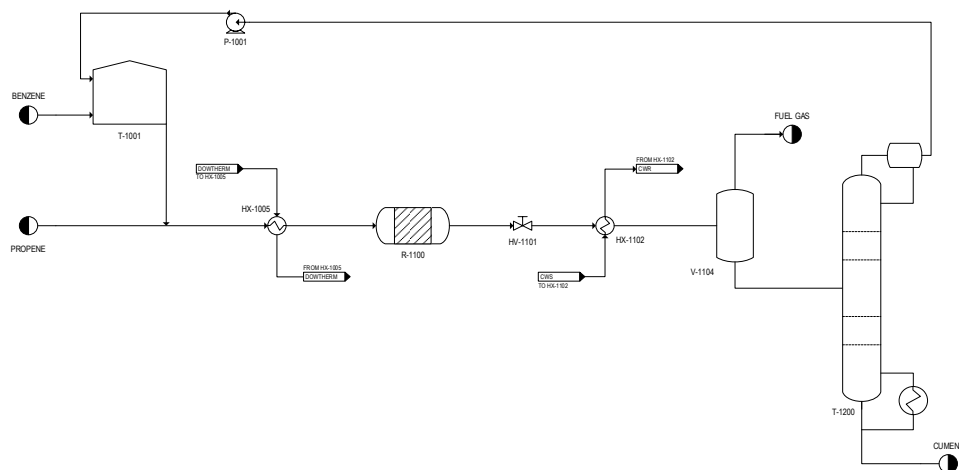
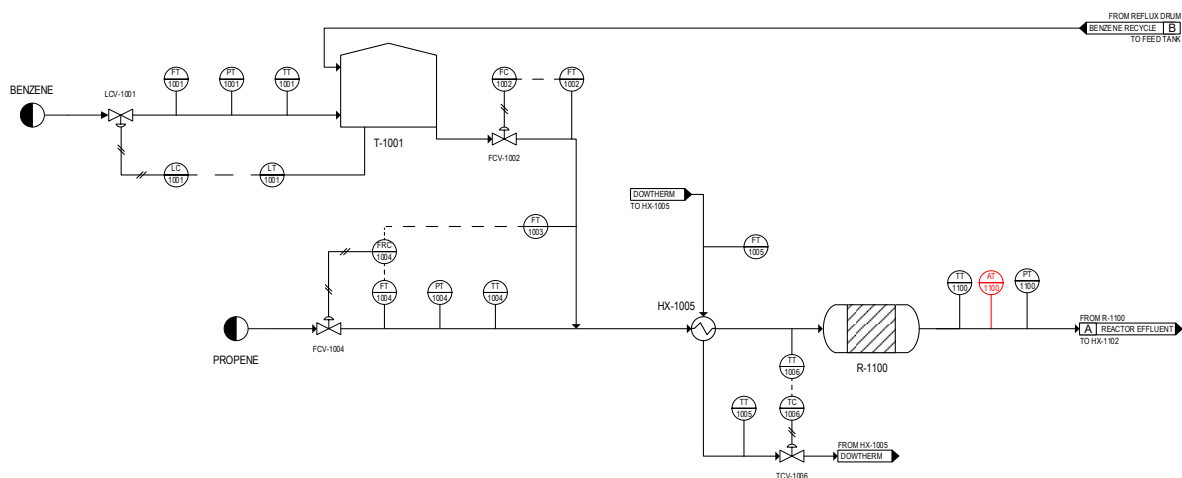
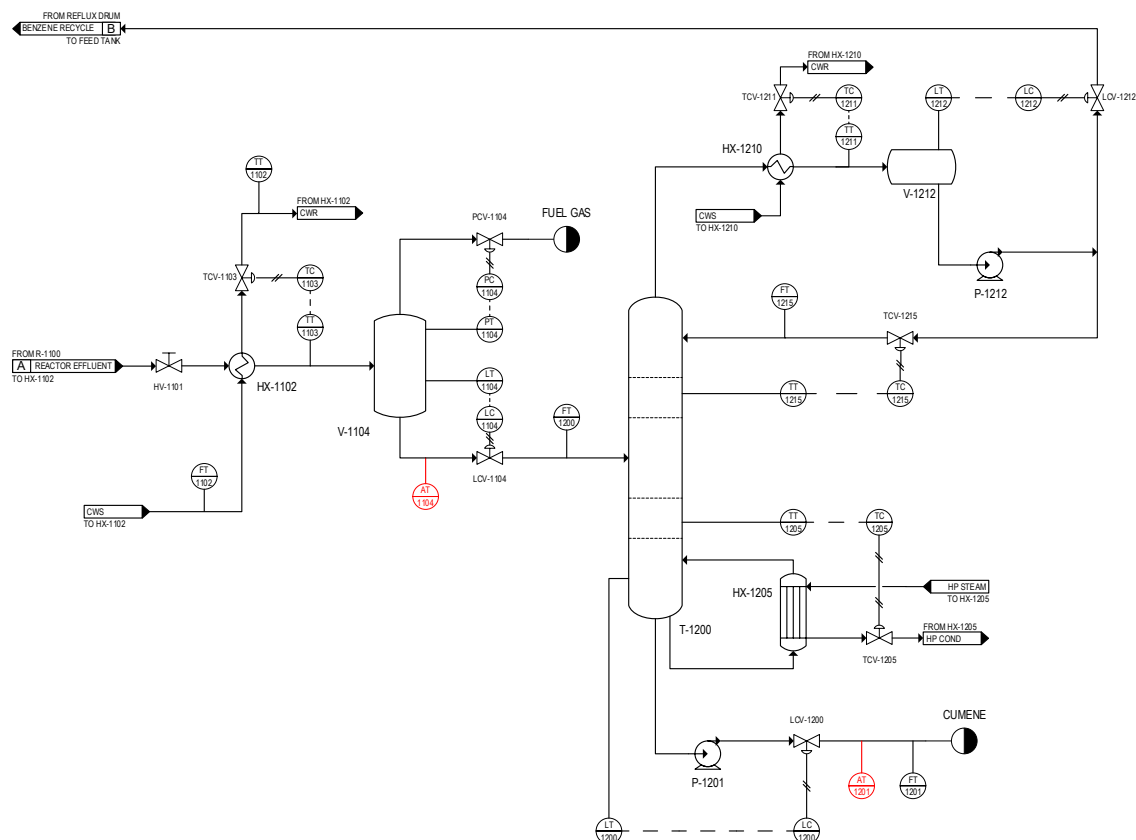

Figure 1 - Simplified PFD for AVEVA Process Simulation model
Figure 2 - Detailed process flow diagram of reactor section (copied from Part 1)
Figure 3 - Process Flow Diagram (PFD) for the separation section of the cumene process
In Part 2, you will integrate your ML model into AVEVA Process Simulation to create a high-fidelity model that simulates the plant's behavior. A simplified PFD for the process is shown in **Figure 1** below. Using the ML model you trained in Part 1:
1. **Build a simulation model** of the cumene process using AVEVA Process Simulation. Your simulation model should include all equipment shown in **Figure 1**, except any model(s) you have chosen to represent with your ML model. Additional information required to build the model is given in **Appendix A – Simulation Inputs**.
Simulation Model Points will be awarded for successfully creating the simulation model shown in Figure 1 .	15%
NOTE: the process description and PFDs provided below have been copied from Part 1 of the competition. The PFDs shown in **Figure 2** and **Figure 3** are more detailed than are required for your simulation model. Refer to **Figure 1** instead.
Process Flow Diagrams (PFDs) for the cumene process are shown in **Figure 2** and **Figure 3** below. Benzene is combined with propene in a 5:1 ratio of benzene to propene. In HX-1005, the mixed feed is heated to 350°C using a DOWTHERM™ heat transfer utility. The hot feed stream then enters an adiabatic packed bed reactor (R-1100) to produce the cumene product. The reactor effluent is cooled to 90°C in HX-1102 before entering drum V-1104 to vent off light gases, which are used as fuel gas in other areas of the plant. The remaining benzene/cumene mixture is fed to a 13-stage distillation column (T-1200) where a 99 mol% cumene product is recovered in the bottom product stream. From the top of the column, benzene (containing ≤ 1 mol% cumene) is recycled back to the front of the process and combined with fresh benzene in feed tank T-1001.